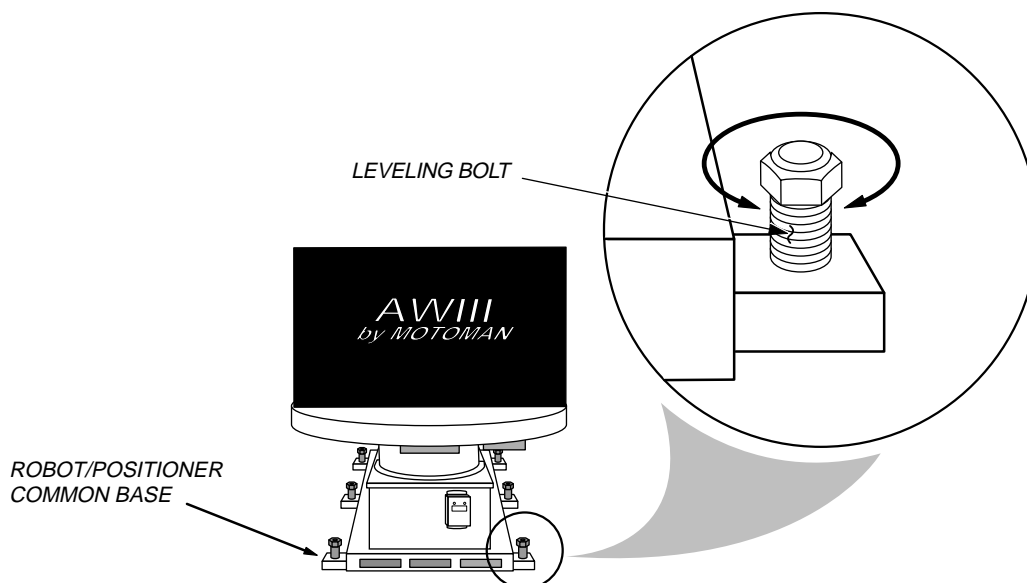

Figure 4-23 Leveling Bolts
5. Level AEC base by adjusting leveling bolts (see Figure 4-23).